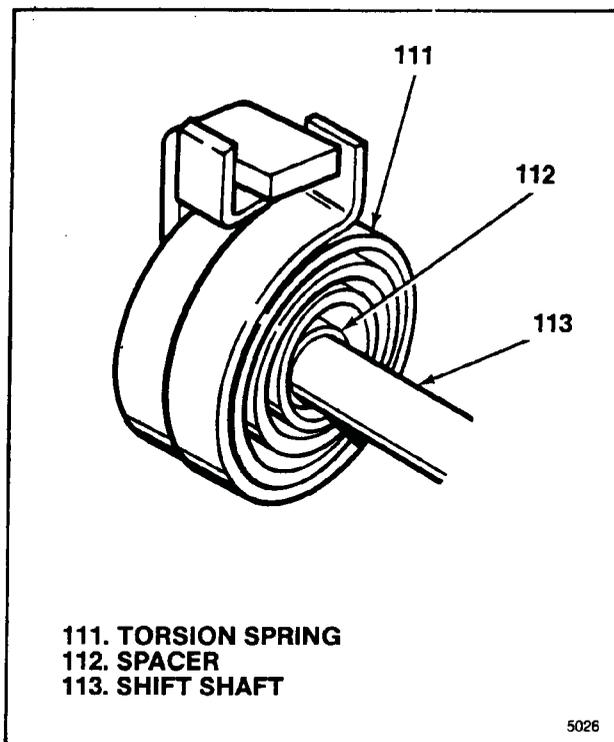

Figure 5-6. Completing Spring Assembly
- d. Push torsion spring (111) and spacer (112) together back as far as they will go (see figure 5-6).
- e. Slide electric shift cam (110) onto shift shaft (113), drive tang on cam first. Position drive tang on cam so that it will go under drive tang on shift shaft and between spring ends and slide cam as far as it will go.